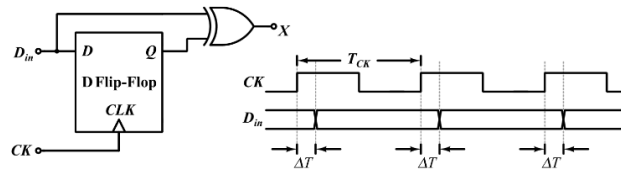

Fig. 5.31
32. In the circuit shown below in Fig. 5.31 a positive edge-triggered D flip-flop is used for sampling input data using clock CK. The XOR gate outputs 3.3 volts for logic HIGH and 0 volts for logic LOW levels. The data bit and clock periods are equal and the value of  $\Delta T/T_{ck} = 0.15$ , where the parameters  $\Delta T$  and  $T_{ck}$  are shown in the figure. Assume that the Flip and the XOR gate are ideal. (GATE EC 2018)